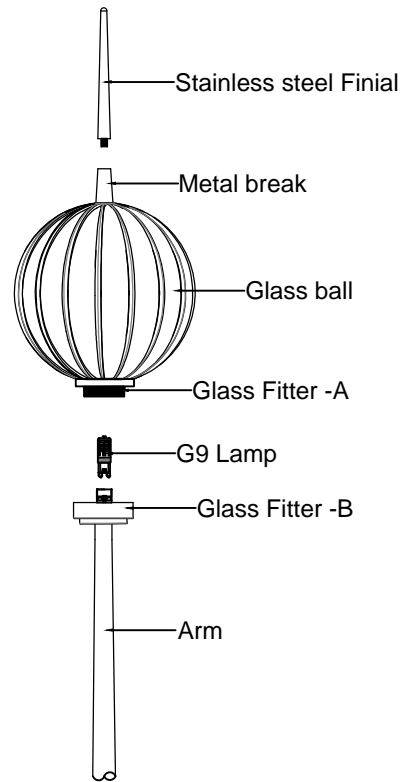

FIGURE-03
- Attach the stainless steel finial to the metal break on glass ball. (See Figure-03)
- Attach glass ball to the arm, mate the together the Glass fitter-A on the glass ball to the Glass fitter-B on the arm. (See Figure-03)